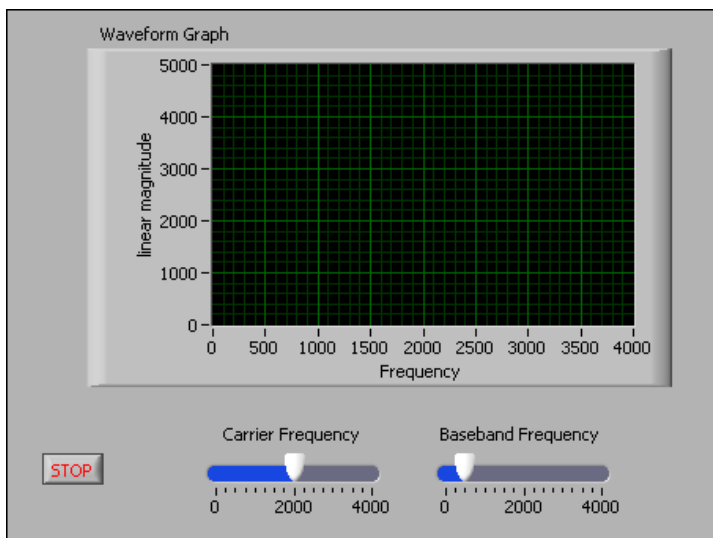

Figure 3. Looking at the Heterodyne VI Front Panel
1. Double-click **Heterodyne.vi** under the DSP target you are using in the **Project Explorer** window to open the front panel of the VI, shown in Figure 3. You create user interfaces for DSP VIs in the same way you create user interfaces for VIs that run on Windows.